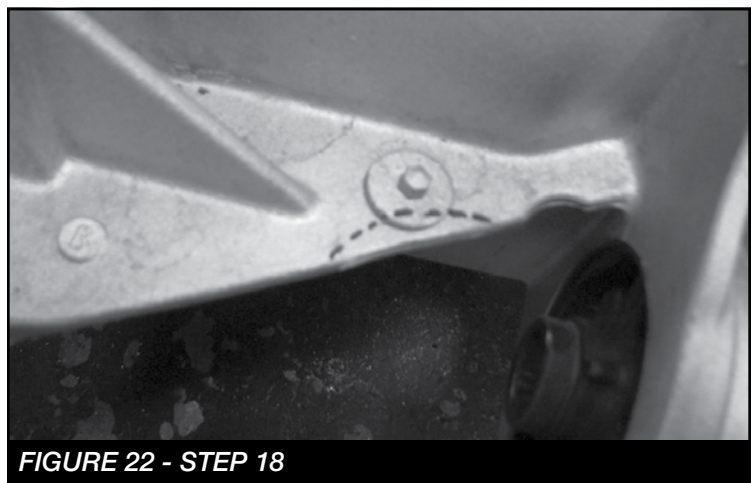

FIGURE 22 - STEP 18
18. On the differential, locate the gusset between the rear diff mount and the drivers axle shaft. Grind a 1/4" radius like shown in **FIGURE 22**.